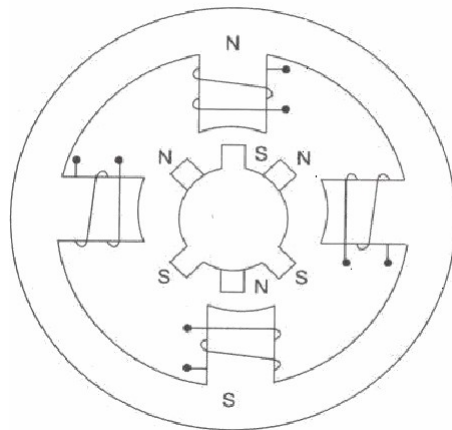

Fig.1 Internal schematic of a four winding stepper motor.
- ┌ The internal schematic of a typical stepper motor with four windings is shown in fig.1.